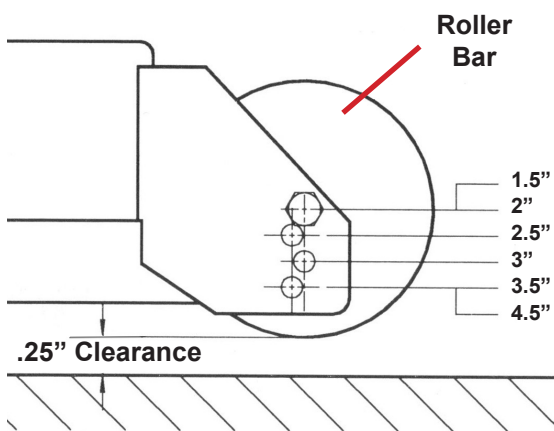

Figure 5
3. Adjust anti-scalp rollers for normal operating conditions. Stop engine, wait for all moving parts to stop, and remove key. Place rollers in one of the positions for desired cutting height (*see Figure 5*).